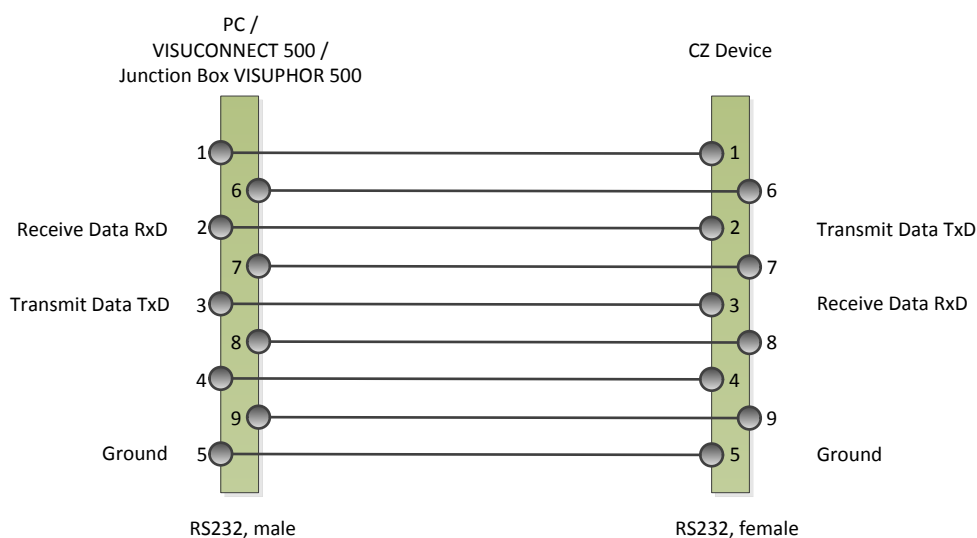

Figure 2 RS-232 DB 9 wiring configuration
N.B.: connecting to a standard PC should be possible through a standard commercial version of the shelf 1:1 cable i.e. a cable with straight through connections, not crossing transmit and receive lines 2 (Received Data) and 3 (Transmitted Data), respectively (see Figure 2).